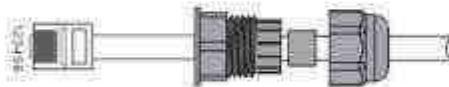

Figure 4.6-4 Remotely close the cable connection
Step 3-2 For Remote Shutdown. Run the cable through the steel plate. Then wire from pins 5 and 6. Table 4.6-1 describes the 6-pin port definition. Wiring is shown in Figure 4.6-4.